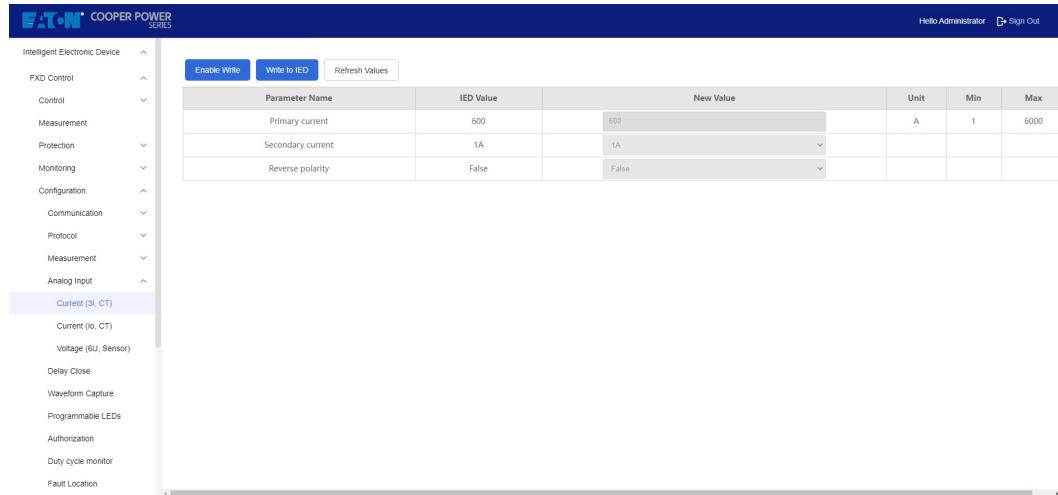

Figure 28 Analog input on web-server
5. Click the “Analog Input” and parameter settings window will popup where it is possible to edit. (Figure 28)